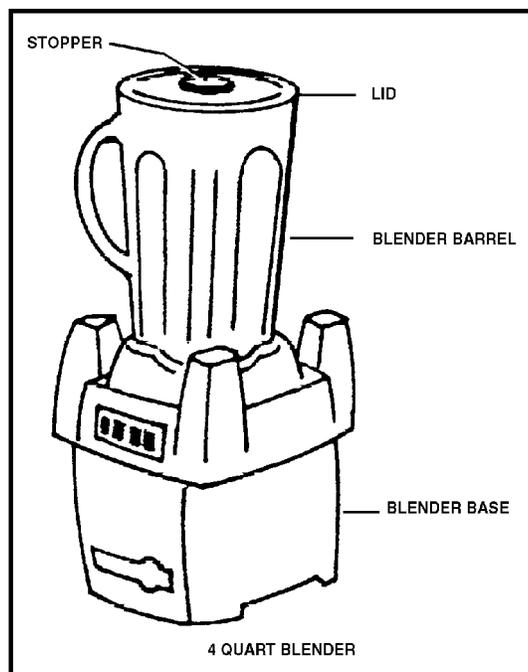

Figure 2-22.
- a. 4 quart blender. (See Figure 2-22.)